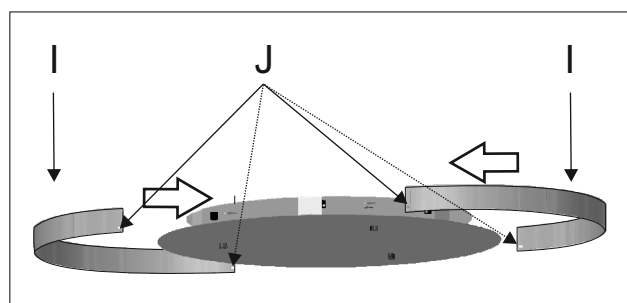

Figure 3
3 - Place the rings (I) and fasten the side screws (J). Figure 3.